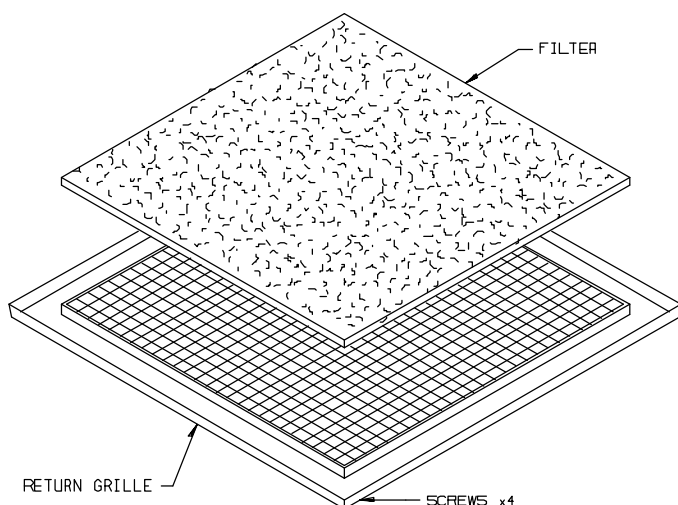

FIGURE 3
4. If the vehicle is equipped with a flush mount ceiling assembly, remove the four return air grille screws (See Figure 3).